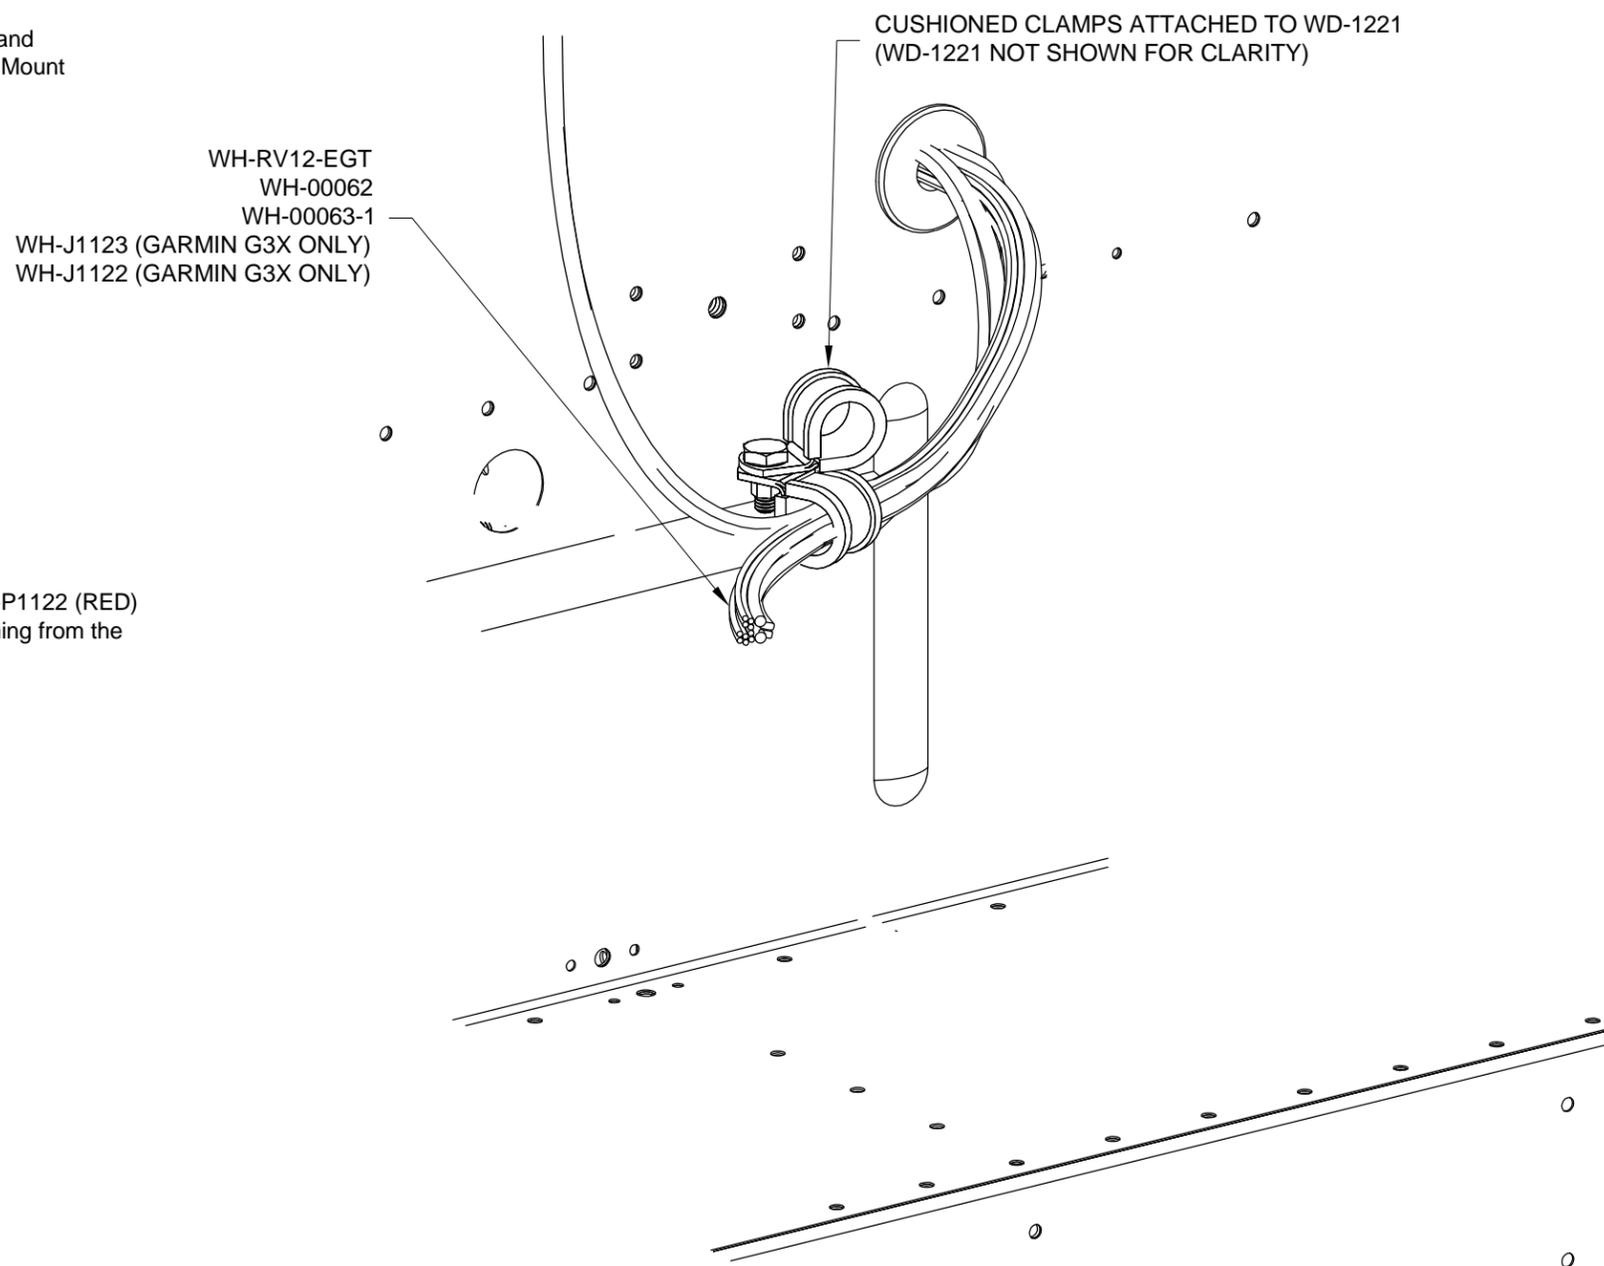

FIGURE 1: ROUTING WIRES THROUGH THE CUSHIONED CLAMPS (GARMIN SPECIFIC WIRES SHOWN)
Step 4 (Garmin G3X Touch): From the WH-00101 G3X Touch Harness route the WH-P1123 (WHT) and WH-P1122 (RED) wires through the cushioned clamp attached to the engine mount standoff. See Figure 1. These wires are coming from the 15-pin d-sub that connects to the ES BATT TCW 3AH Backup Battery. See Section 42N.